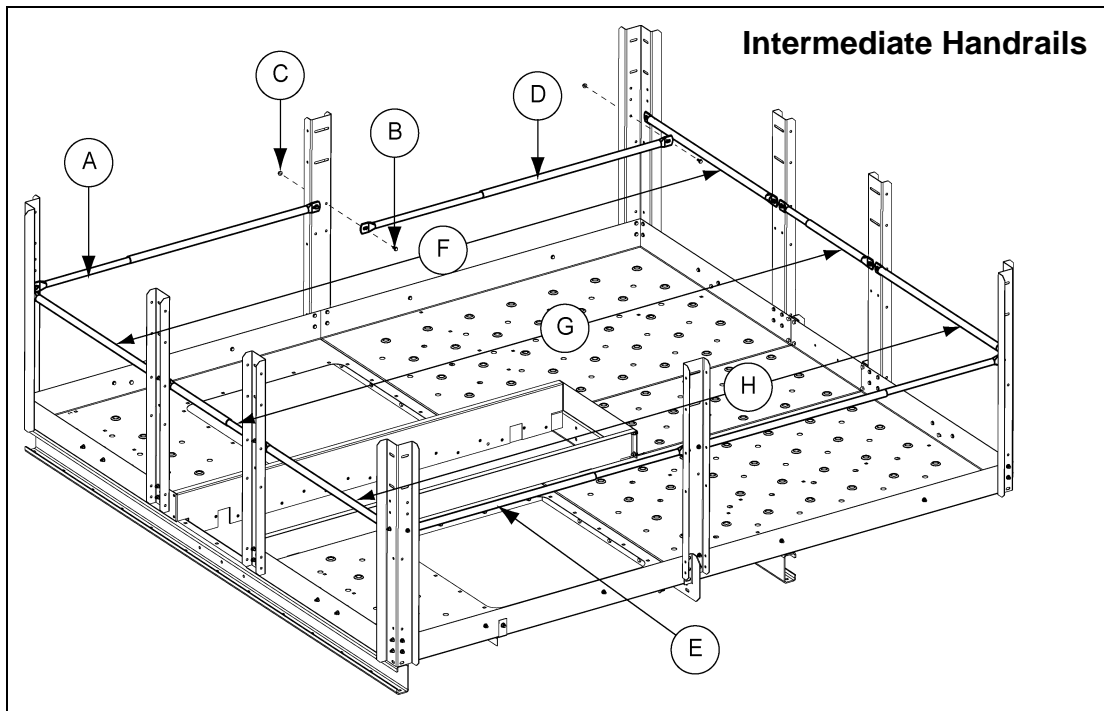

Figure 8R Intermediate Handrails
NOTE: The small intermediate handrail (LDR-4088) fits inside of the large intermediate handrail. It is critical that large and small rails be properly identified in advance. Rails are cut to size and cutting the wrong rail or to the wrong length will prevent proper installation. (See Figure 8R.)
- b. Insert one small rail inside of one large rail and telescope the joined rails from the "W" corner post to the platform post as shown in Figure 8R on Page 67.
- b. Insert one small rail inside of one large rail telescope the joined rails from the "W" corner posts to platform posts as shown in Figure 8R on Page 67.